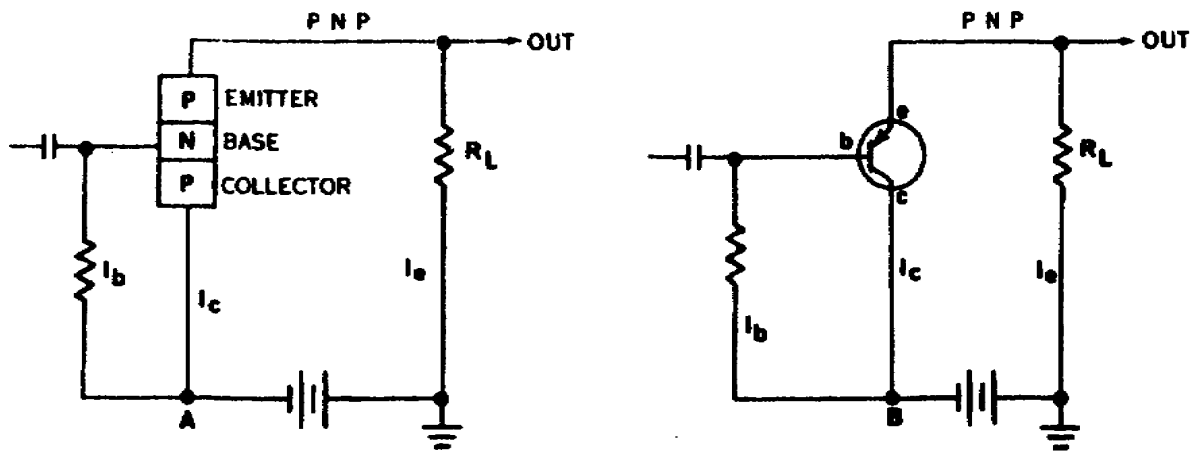

Figure 121. Common collector circuit.
5. **Common Collector Circuit.** The common collector circuit in figure 121 operates in much the same manner as a cathode follower vacuum tube circuit. It has a high impedance and a low output impedance. It has a small